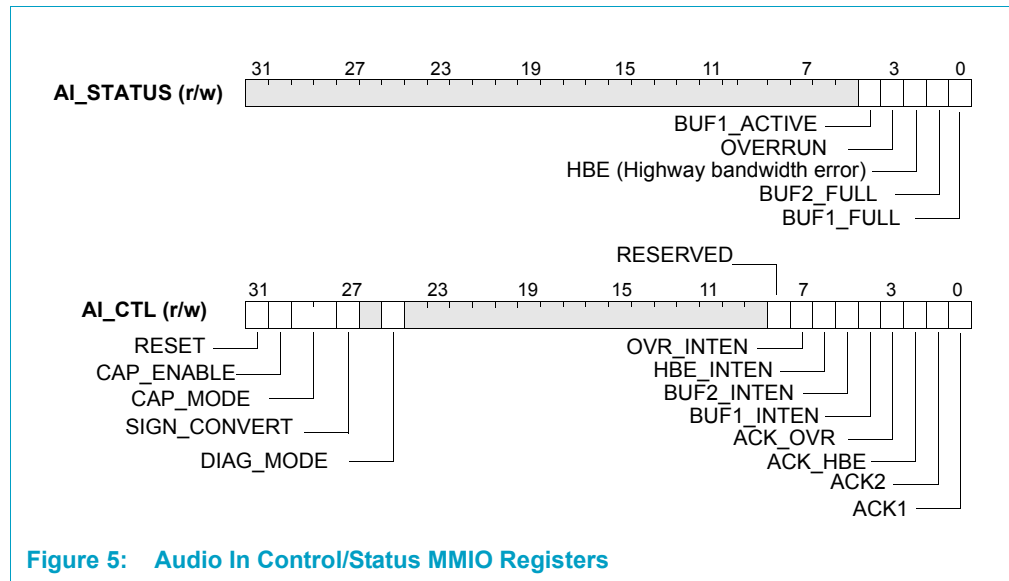

Figure 5: Audio In Control/Status MMIO Registers
**Remark:** The programmer also sees the Control and Status registers of the audio In block as in Figure 5. These registers are always seen with the same bit-layout in the CPU register, regardless of endian mode.